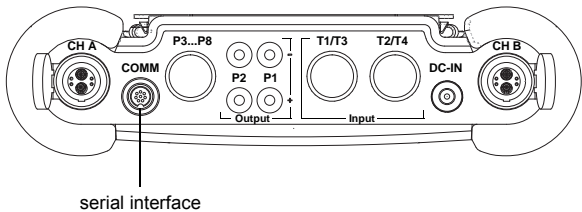

Fig. 6.13: Connections of the transmitter FLUXUS F601
- Connect the RS232 cable to the transmitter (see Fig. 6.13) and to the serial interface of the PC. If the RS232 cable can not be connected to the PC, use the RS232/USB adapter.